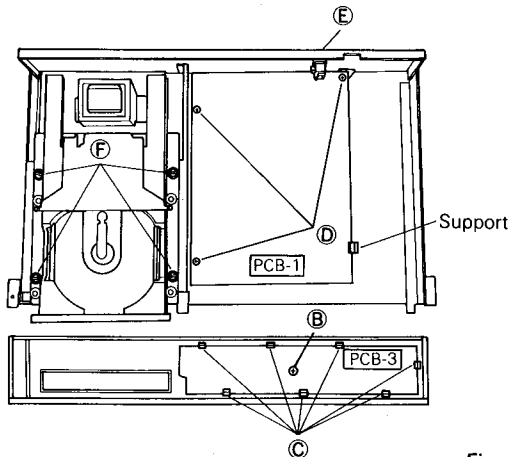

Fig. 3
Remove the Front Panel Assembly, the one screw (B), and catches (C). (Fig. 3).
Remove the Cabinet Top and the three screws (D), support and screw (E) holding the output jack (Fig. 3).